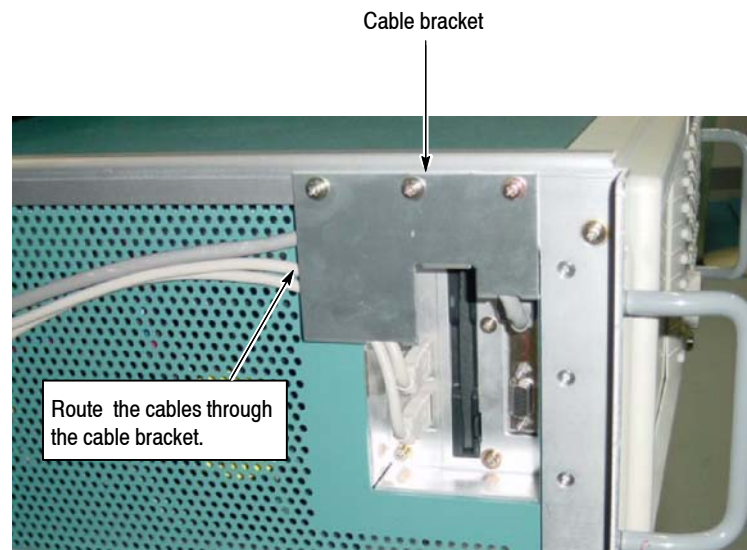

Figure 7: Installing the cable bracket
- a. If you use the USB and LAN connectors on the left side of the analyzer, install the cable bracket to the left main bracket using three 10-32 screws. See Figure 7.